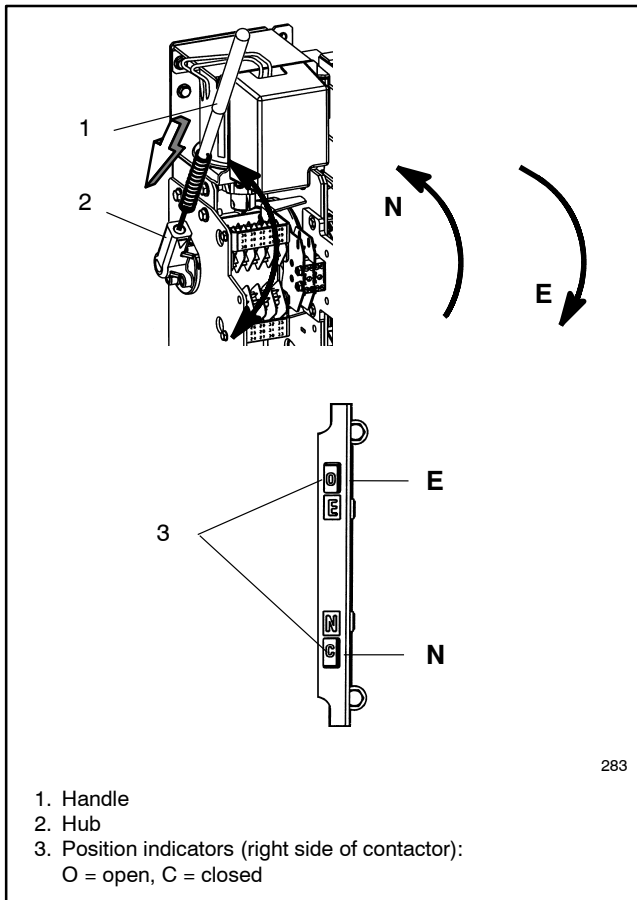

Figure 2-5 Manual Operation, 260- 600 Amp Switches
3. **230- 600 amp switches: See Figure 2-5.** Insert the maintenance handle into the hole in the shaft on the left side of the operator.